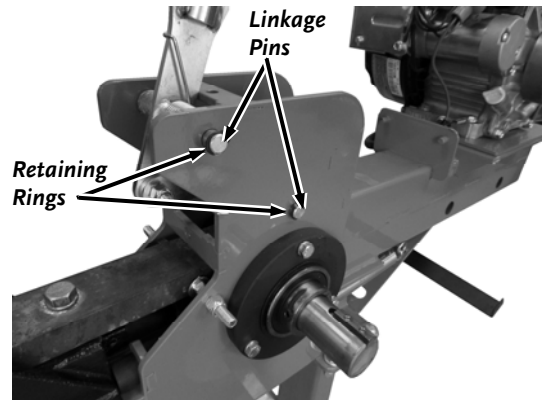

Figure 26
- Use Retaining-ring Pliers to remove the Rings from one side of the Linkage Pins (**Figure 26**).